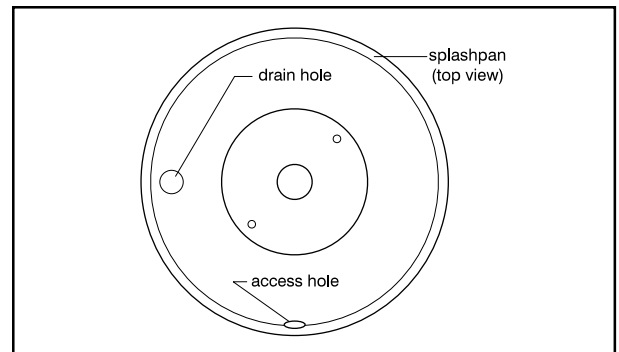

Figure 2
6. Place splashpan (with drain hole on the left) over shaft (figure 2).